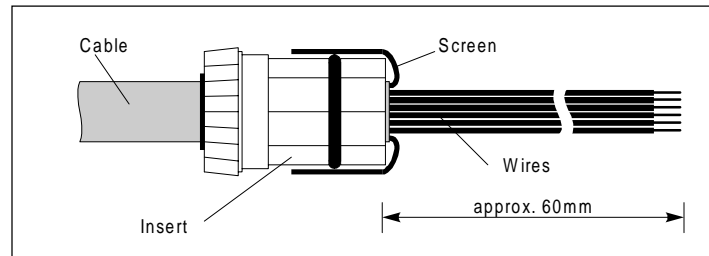

Figure 6: Attaching the cable to the sensor
- Bend back the shield over the O-ring in the insert, cf. Figure 6.